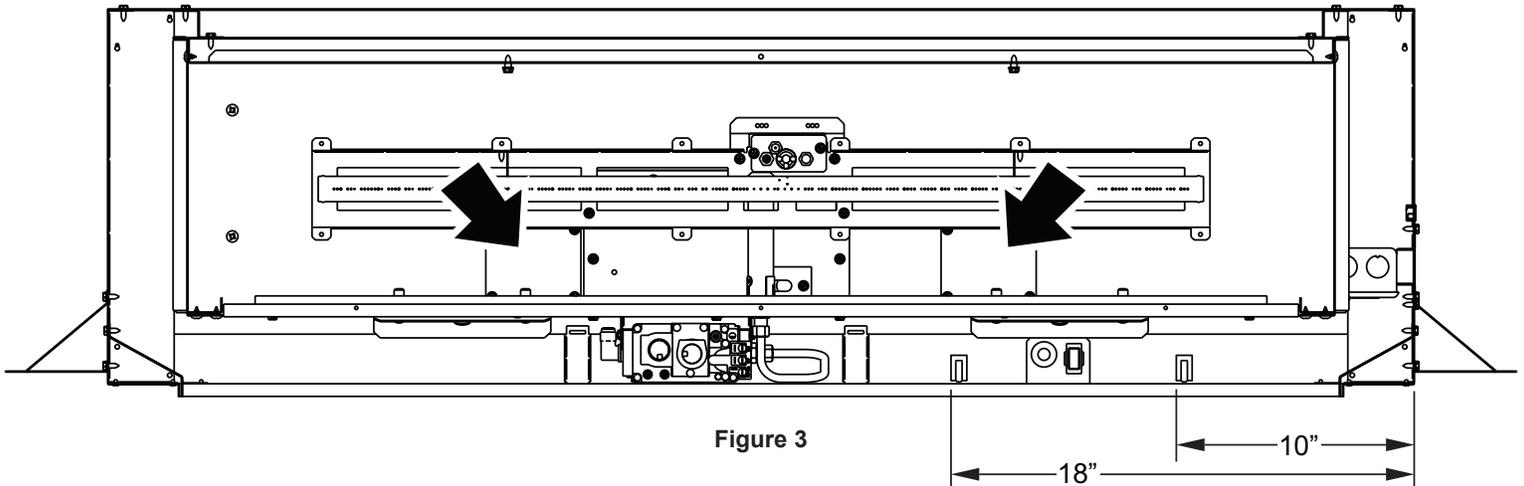

Figure 3
2. Remove cover plates from firebox floor. **See Figure 3.**
3. Place two self-adhesive Wire Clips approximately where shown. **See Figure 3.**